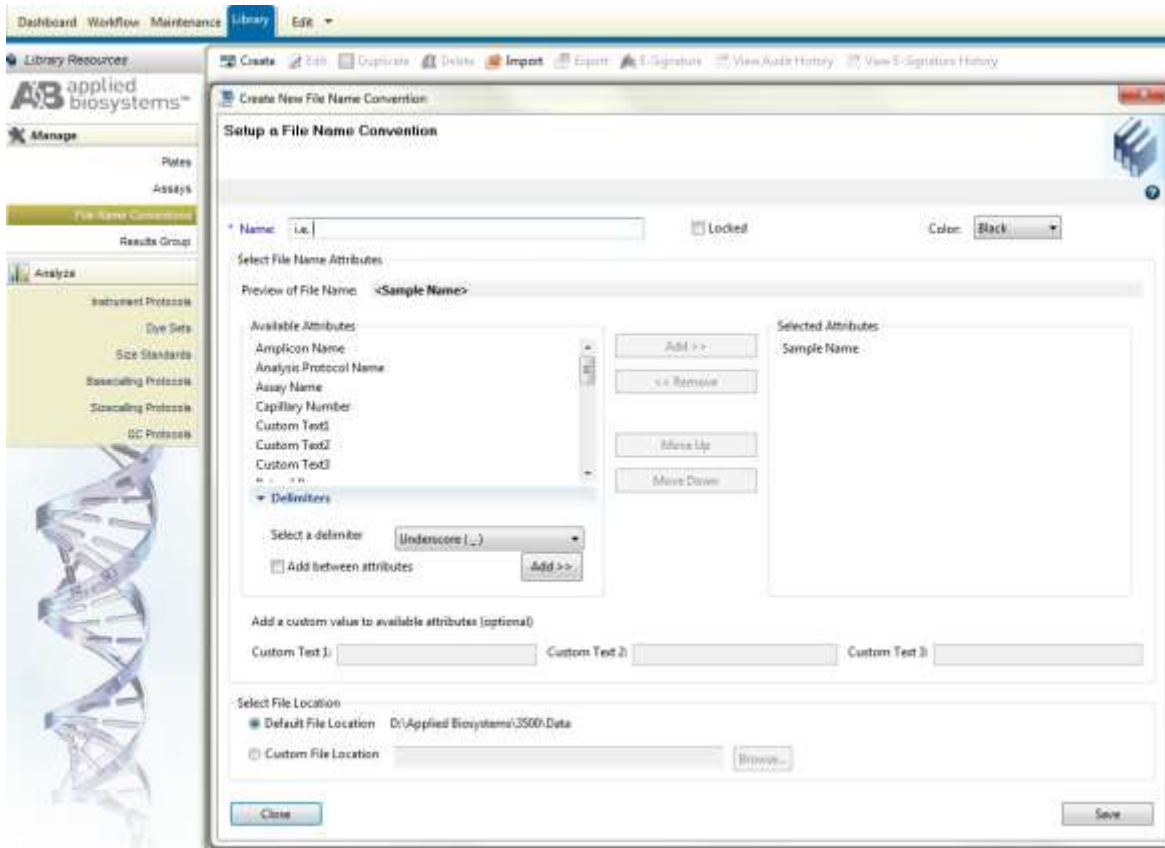

Figure 9. Screenshot for the “Create New File Name Convention” window on Applied Biosystems 3500 Data Collection software.
- c) Select “Create” (Figure 9)
- c) Select “*Create*” (Figure 9)